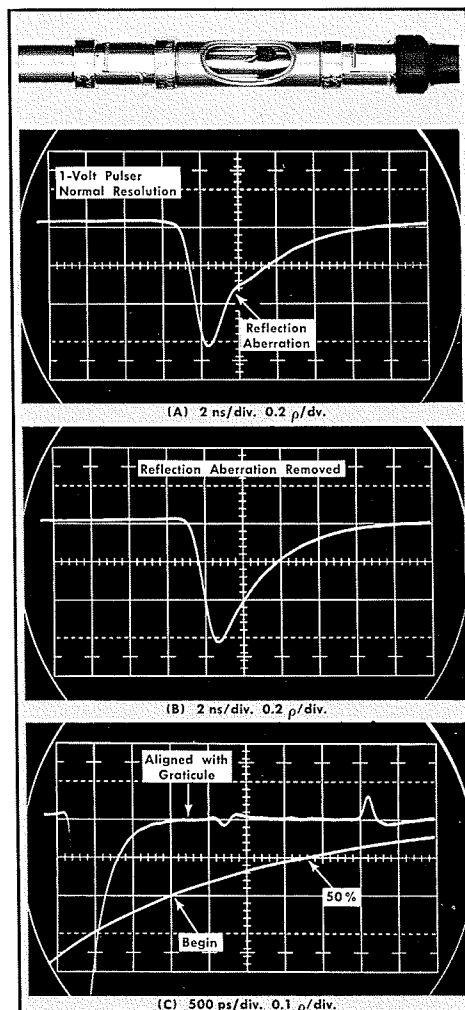

Fig 12. Example of moving display reflection aberrations to obtain a "clean" exponential curve.
For example, a 100 pF discap was soldered into a General Ratio Radiating Line section (Fig 12). The 1-Volt pulser was used; re-reflections from the pulser distort the exponential curve at the arrow of Fig 12A. The re-reflection is moved to the right just outside the time window by placing a 20 nsec signal delay RG213/U cable between the pulser and the sampler. The acceptable waveform is shown in Fig 12B. Fig. 12C is a double exposure that shows first how the "end" of the exponential curve is set to a graticule line. Then the display is time expanded to 500 ps/DIV (leaving the vertical position as adjusted) and the new arbitrary 100% exponential curve is chosen and marked. The capacitor's value taken from the time expanded curve of Fig 12C and using formula (5) is 104 pF ($1.8 \times 10^{-9} / 0.693 \div 25 = 1.04 \times 10^{-10} = 104 \text{ pF}$). Note that the vertical ρ factor was changed for Fig 12C in order to make the time constant measurement from a clean section of the curve near its end.